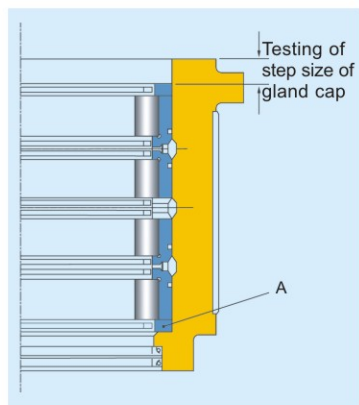

Fig. 4-6: assembly sequences of four-row cylindrical roller bearings
- When assembling the outer ring unit, lubricate the rollers and outer ring first, lubricate the fitting surface with oil, the fitting surface will be at the lowest point according to the mark on the cage A, lift the outer ring unit with the lifting hole on the cage A, aim at the load zone line between the bearing housing and the bearing, slowly insert this into the housing, if tilt occurs then gently tap the outer ring with a cooper bar to realign its direction, ensure that the bearing surfaces are in contact tightly with the rib of the bearing housing and that the assembly is moving into its correct position. Place the cage B, cage C and cage D in the same way, aim at the same load zone, place the roller unit and the outer ring assembly into the chock, the final step is the measurement, calculate the size of the end cap step, press the end cap tightly, (Fig. 4-6).